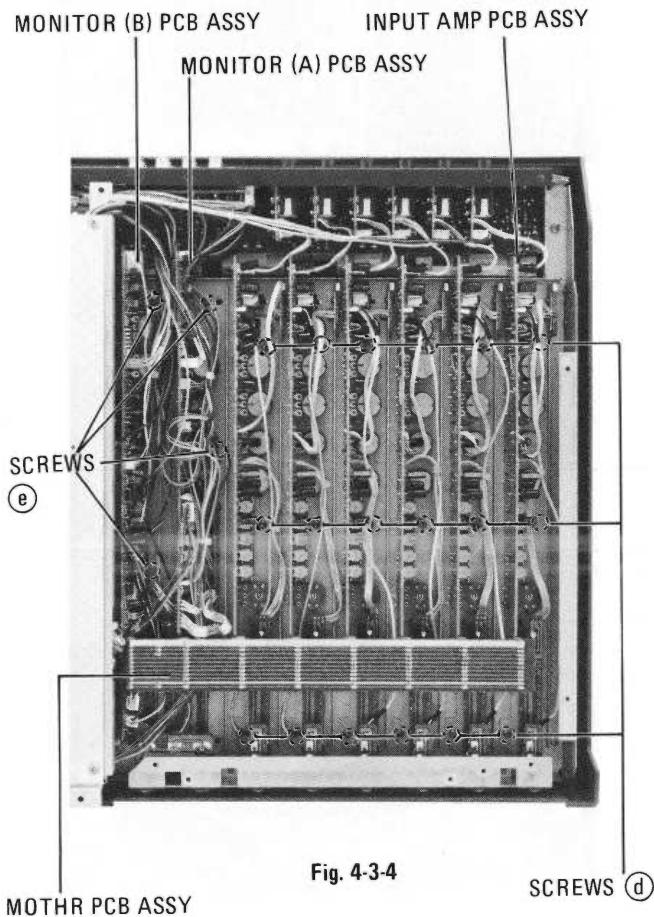

Fig. 4-3-4
- 2) Remove the screw (d) to remove the Input amplifier PCB Assembly, and screw (e) to remove the monitor amplifier PCB Assembly. Refer to Fig. 4-3-4